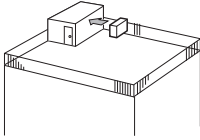

Fig. 2-4
- ① Face the air outlet towards the nearest available wall about 35 cm away from the wall. (Fig. 2-4)